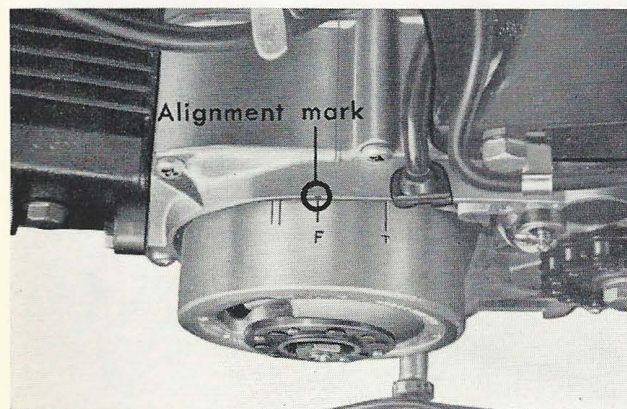

Figure 6-6. Aligning to the "F" mark
- a. Remove the left crankcase cover and align the "F" marking on the flywheel to the timing mark on the crankcase. In this position, check to make sure that the spark is produced across the spark plug points. (Fig. 6-6)